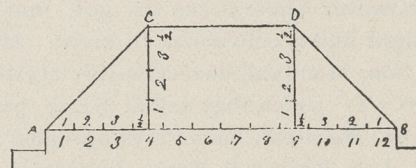

FIG. 3.
ANS.—Suppose AB, Fig. 3 represents the width of octagon. Divide the line AB, into 12 equal spaces as numbered from 1 to 12; from A set off  $3\frac{1}{2}$  spaces, and square out to C  $3\frac{1}{2}$  spaces, as shown; from B, set off  $3\frac{1}{2}$  spaces, and square out to D, as shown; connect AC, CD, and DB, as we have the sides of the octagon complete. This method is very simple and will be found very practical, especially in drawing floor plans
Fig 3, showing ground plan of fire-place and chimney. (1) is wall line; (2) is chimney breast; (3) common brick; (4) and (5), fire brick laid flat; the fire-brick when laid on edge make a job that is very unstable, the brick when heated being easily broken or knocked loose by a careless person or by any one striking them with a poker in poking the fire.